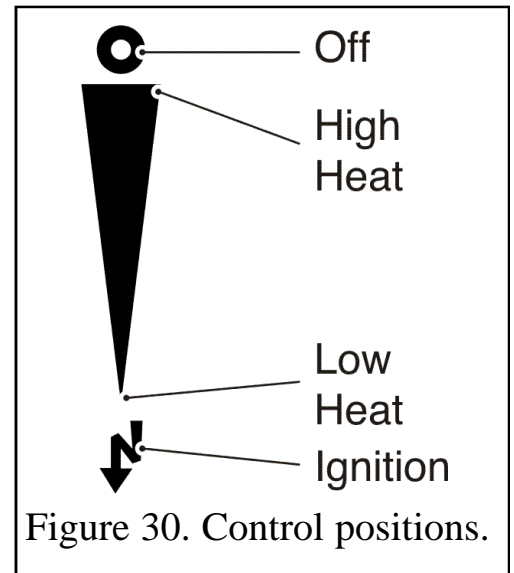

Figure 30. Control positions.
The control position markings on the fascia are shown in figure 30.
5. Gradually slide the button up to increase the burner setting. The burner should be at its maximum setting at the high heat position shown in figure 30. You should feel a check to the button movement at this position.